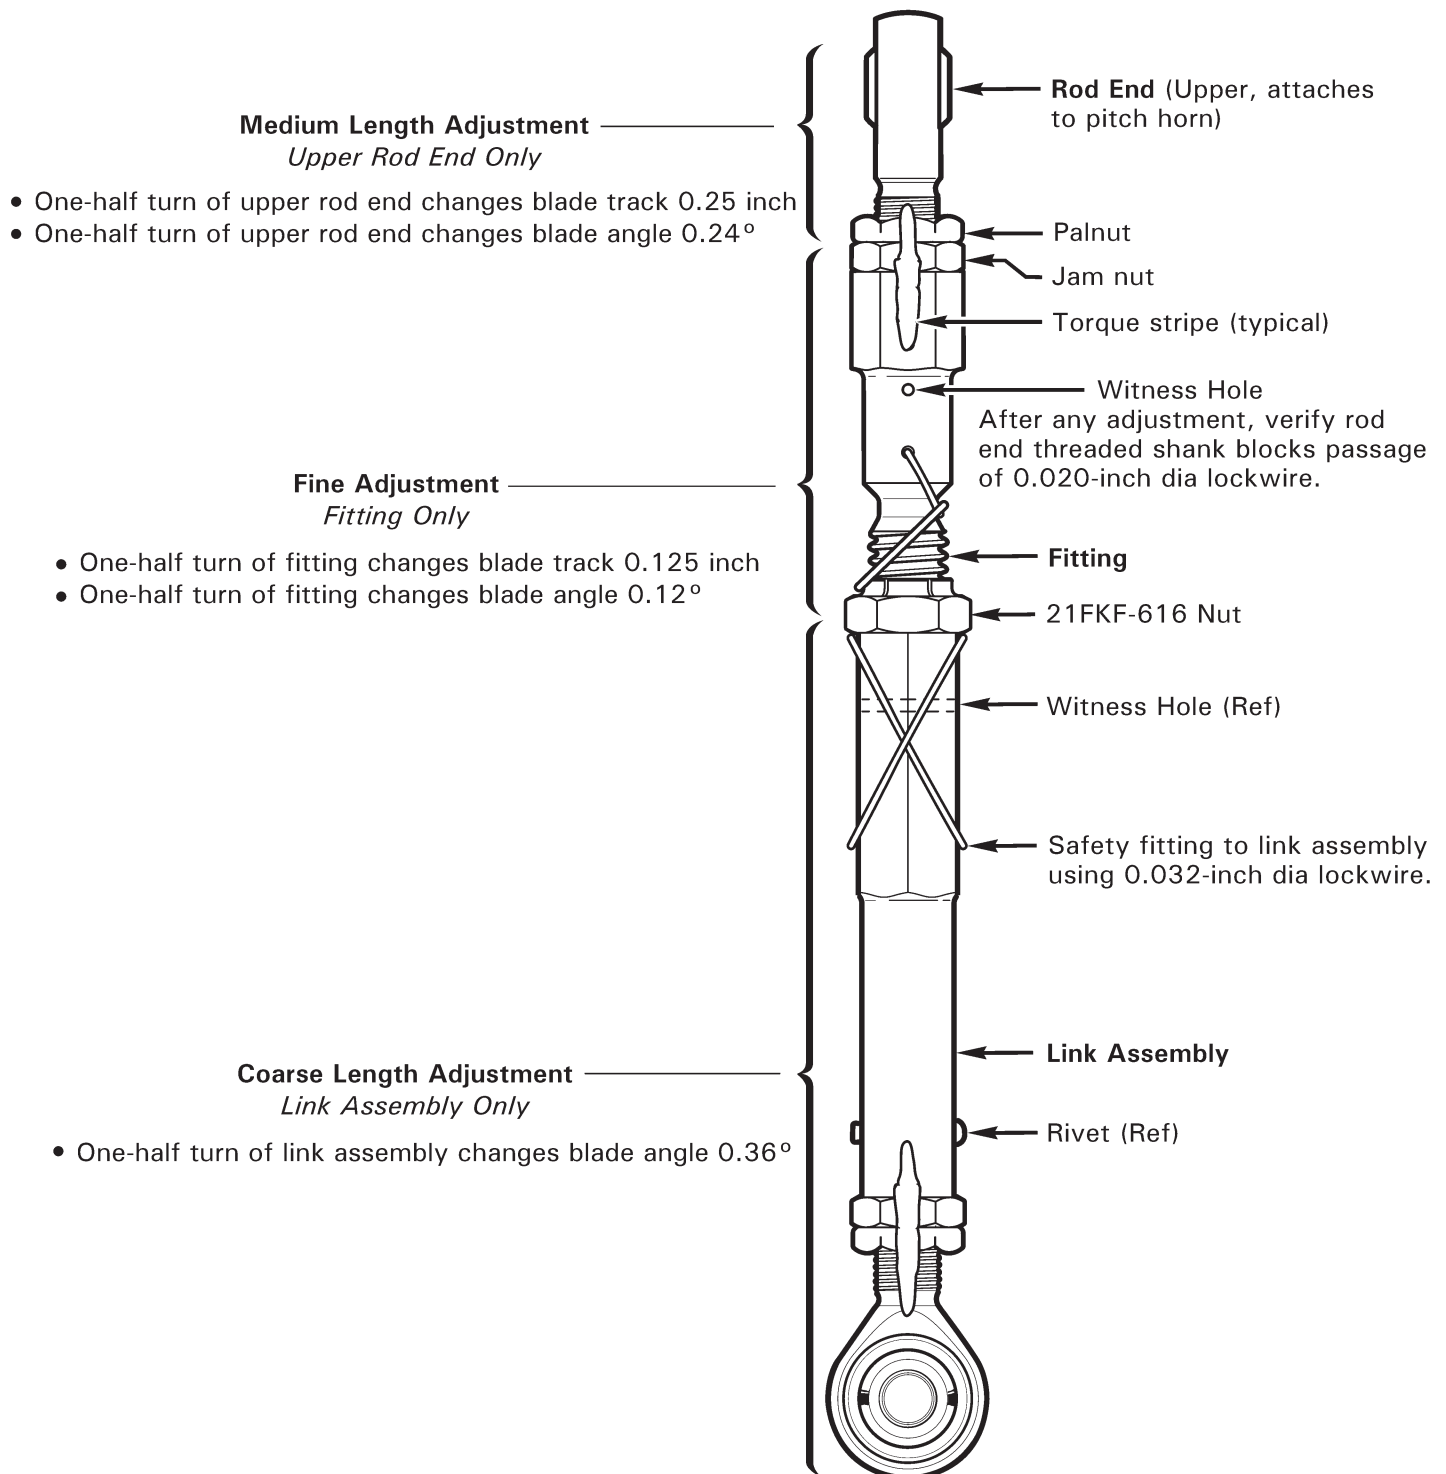

FIGURE 10-12B A258-1 MAIN ROTOR PITCH LINK
- i. Refer to Figure 10-12B. Cut and discard pitch link assembly safety wire. Using backup wrench on link assembly, loosen 21FKF-616 nut; using backup wrench on fitting, loosen upper rod end palnut and jam nut.
- i. Refer to Figure 10-12B. Cut and discard pitch link assembly safety wire. Using backup wrench on link assembly, loosen 21FKF-616 nut. Remove hardware securing lower rod end to swashplate.